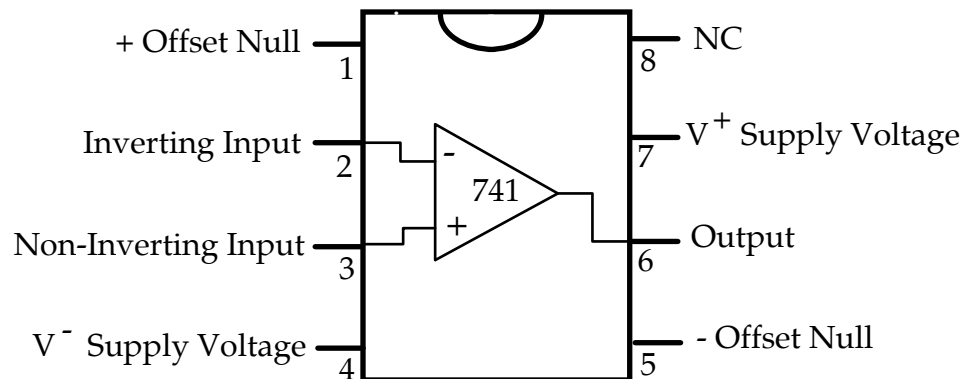

Figure 1 LM 741 Op-amp Dual In-line Package Pin Connections
- 1 - 741-type op-amp, provided in the 8 pin dual in-line (DIP) package shown in Figure 1.